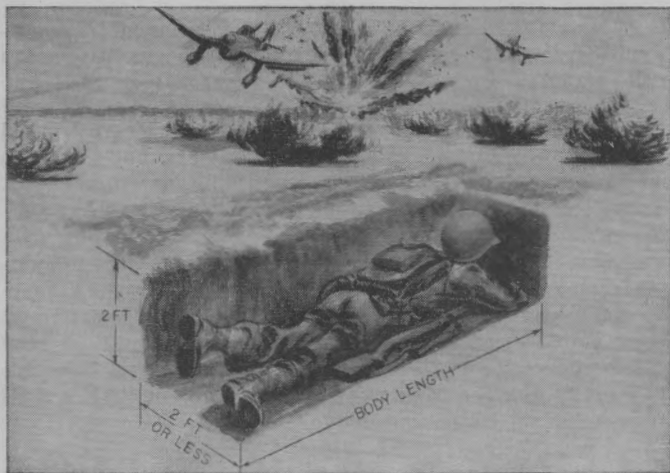

FIGURE 59.—Prone shelter.
- (1) Observation.
- (2) Field of fire (firing position).
- (3) Cover (including protection from small-arms fire, shell and bomb fragments, and the crushing action of tanks) and concealment.
- (4) Obstacles.
- (5) Covered approaches.
■ 34. PRONE SHELTER (fig. 59).—When you are halted for more than a few minutes and are out of contact with the enemy, the prone shelter should be built. It is comparatively easy to construct and it protects you from bomb